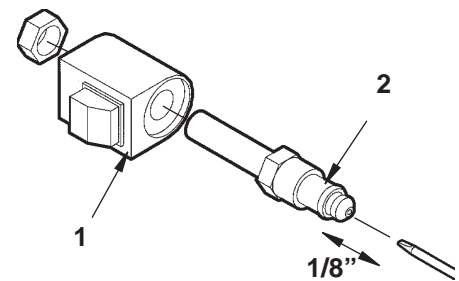

FIG. 51-2
3. Check if solenoid valve is getting power by holding a screwdriver against the top nut of the solenoid. Push control switch to "**LOWER**" position to energize solenoid (**FIG. 51-2**). A good solenoid will attract (magnetically) the screwdriver to the nut and make it difficult to pull the screwdriver away from the nut.
4. Check the valve stem by removing the coil assembly (**Item 1, FIG. 51-2**). With platform supported, unscrew the valve stem (**Item 2, FIG. 51-2**) from the pump. Push on the plunger located inside the valve stem by inserting a small screwdriver blade in the end. If the plunger does not move freely (approximately 1/8"), replace the valve stem.